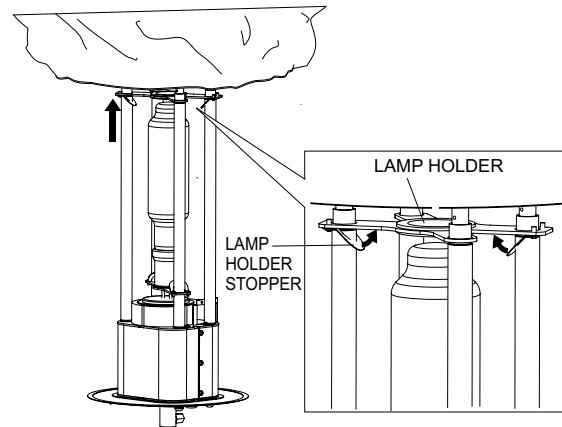

Figure 28. Lamp Holder
4. Press the tabs on the lamp holder and push up lamp holder to release it from lamp. See Figure 28.